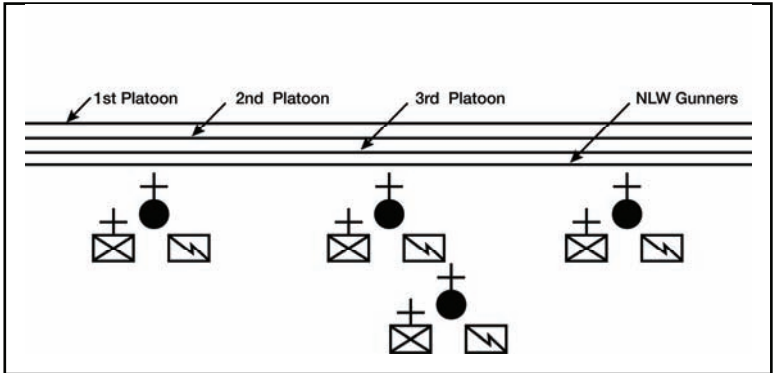

Figure 191-410-0078-2. Company line in mass formation
c. Form the company into a company line formation with support platoon (figure 191-410-0078-3).